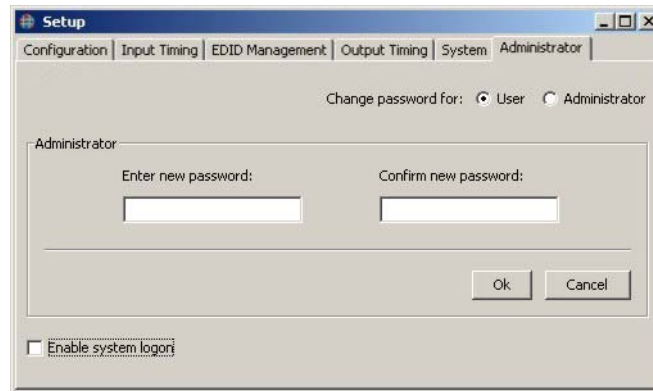

Figure 4-14 Change Password
3. Click the **Change Password** button. The window changes to reveal two text entry boxes as shown in Figure 4-14.